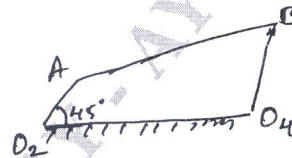

Fig.Q3
- 3 Fig.Q3 shows a four bar mechanism, crank O_2A rotates at 200 rpm and an angular acceleration of 150 rad/sec^2 at the instant when the crank makes an angle of 45° to the horizontal. Find the acceleration of points B & C and angular velocities and angular acceleration of link 3 and 4.